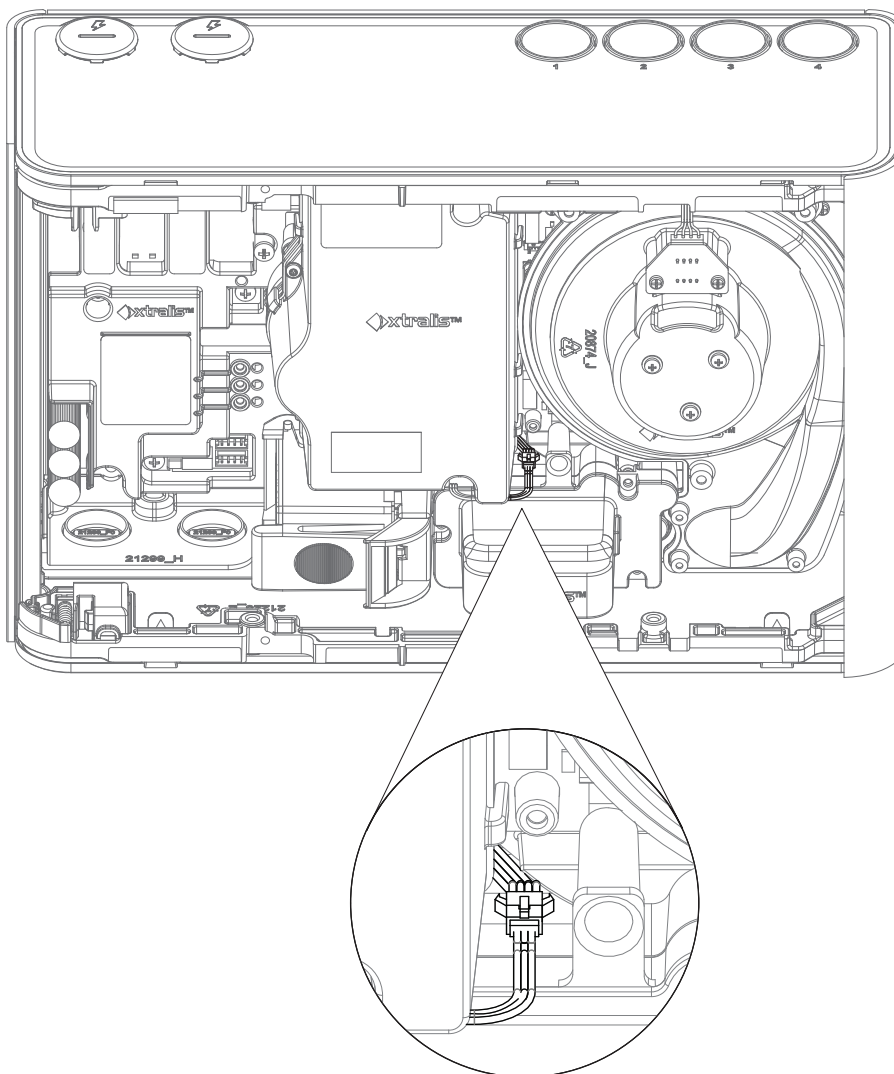

Figure 7-19: Disconnect the Sampling Module cable
3. Disconnect the Sampling Module cable (Figure 7-19).
2. Tighten the three screws and re-connect the Sampling Module cable (Figure 7-19).